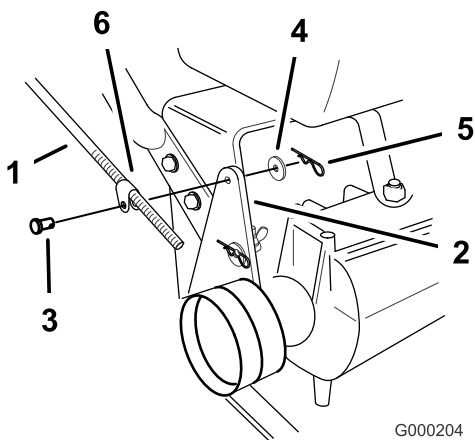

Figure 16
1. Remove hairpin cotter, washer and clevis pin securing control rod fitting to idler bracket (Figure 16).